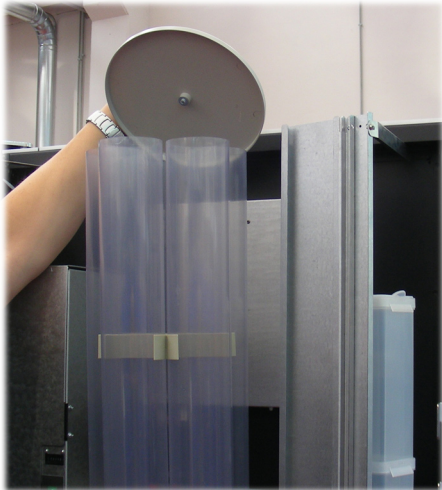

Fig. 62
- remove the cover of the cup dispensing tube (fig.62).